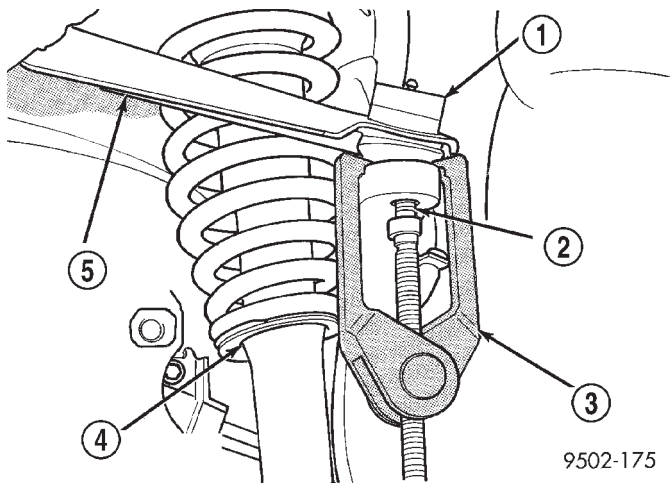

Fig. 38 Ball Joint Stud Removal From Steering Knuckle
(16) Remove the upper ball joint stud from the steering knuckle using Puller, Special Tool, C3894-A (Fig. 38).